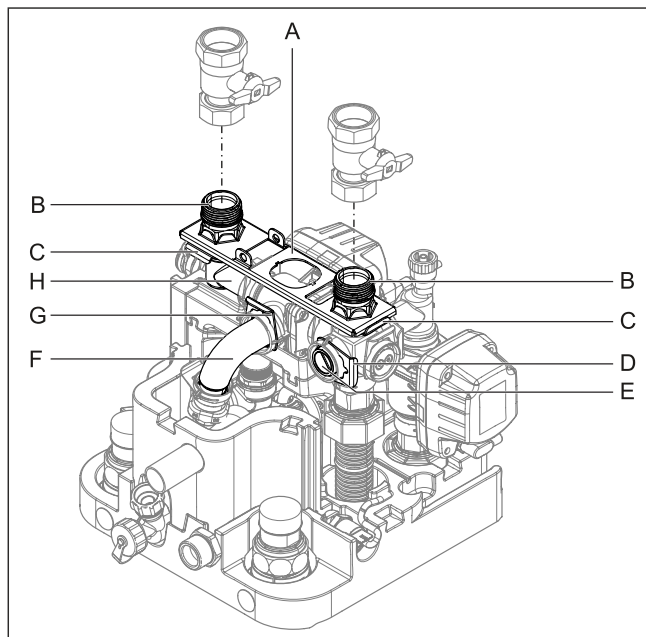
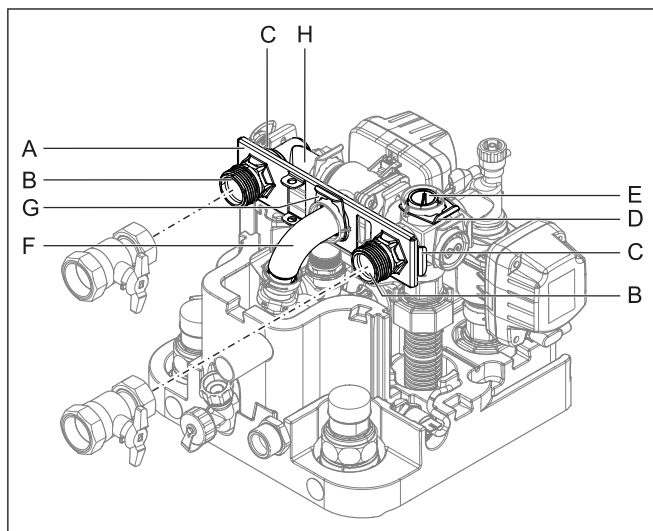

Fig. 3-18 Aligning the heating inflow and return flow upwards
Fig. 3-20 Heating inflow and return flow connections aligned to the rear
- 2 Pull the two securing clips off the connection couplings (Fig. 3-18, item C).
- 3 Pull off the two connection couplings (Fig. 3-18, item B).
- 4 Remove the retaining plate (Fig. 3-18, item A).
- 5 Pull off the sealing plug securing clip (Fig. 3-18, item D).
- 6 Pull out the sealing plug (Fig. 3-18, item E).
- 7 Turn the elbow (Fig. 3-18, item H) 90° to the rear.
- 8 Pull the securing clip off the manifold (Fig. 3-18, item G).
- 9 Carefully pull the manifold (Fig. 3-18, item F) so far backwards out of its horizontal mounting that the retaining plate (Fig. 3-20, item A) can be pushed vertically in between.
- 10 Slide the retaining plate between the manifold and its horizontal mounting and insert the manifold (Fig. 3-20, item F) back into its mounting through the middle hole of the retaining plate.
- 11 Secure the manifold with securing clip (Fig. 3-20, item G) in its mounting again.
- 12 Insert the two connection couplings (Fig. 3-20, item B) into the lateral mountings through the retaining plate.
- 13 Secure the two connection couplings with securing clips (Fig. 3-20, item C) in their mountings.
- 14 Insert the sealing plug (Fig. 3-20, item E) into the upper mounting.
- 15 Secure the sealing plug with securing clip (Fig. 3-20, item D).